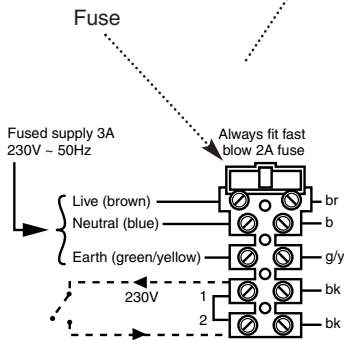

Fig. 36
7. Remove the link between terminal 1 and 2 and connect the wiring from the external control (Figs. 36 & 37).